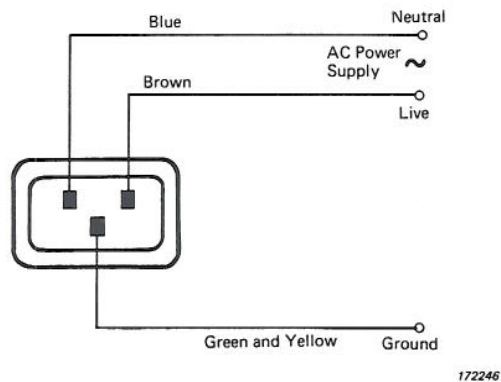

Fig.3.6. Connection of mains supply to MAINS INPUT socket of the 2712
Once the voltage setting and fuse have been checked the mains supply may be connected to the MAINS INPUT socket of the Amplifier using the Power Cable AN 0010 provided. To fit a suitable plug to the cable, see Fig.3.6.
2. Connect the signal ground line and chassis of the 2712 to the earth of a mains supply. This can be done using the MAINS INPUT socket connections shown in Fig.3.6.